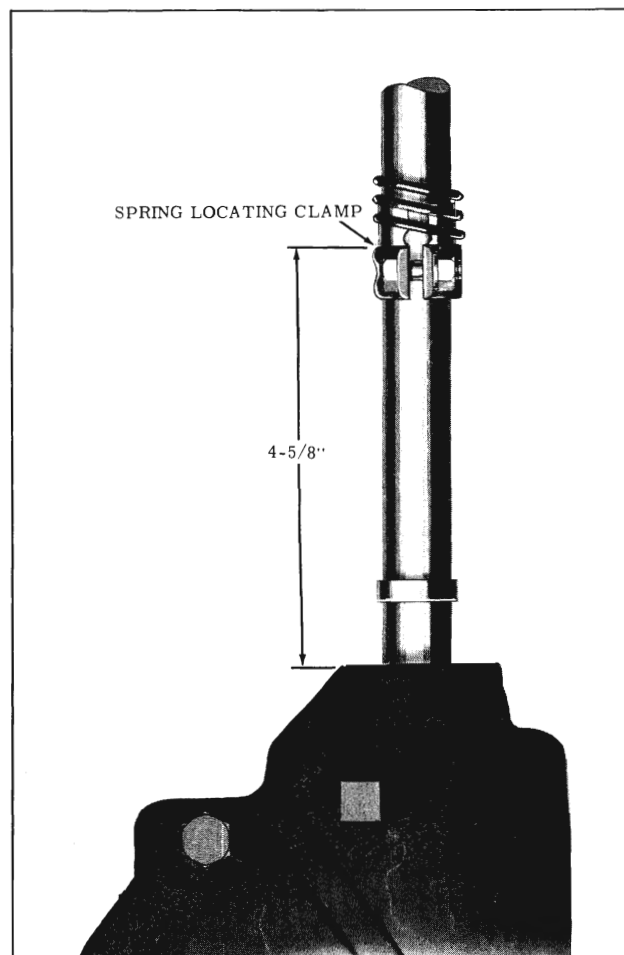

Fig. 4-18 Clamp Location
7. Install clamp and spring on worm shaft. (Fig. 4-18)